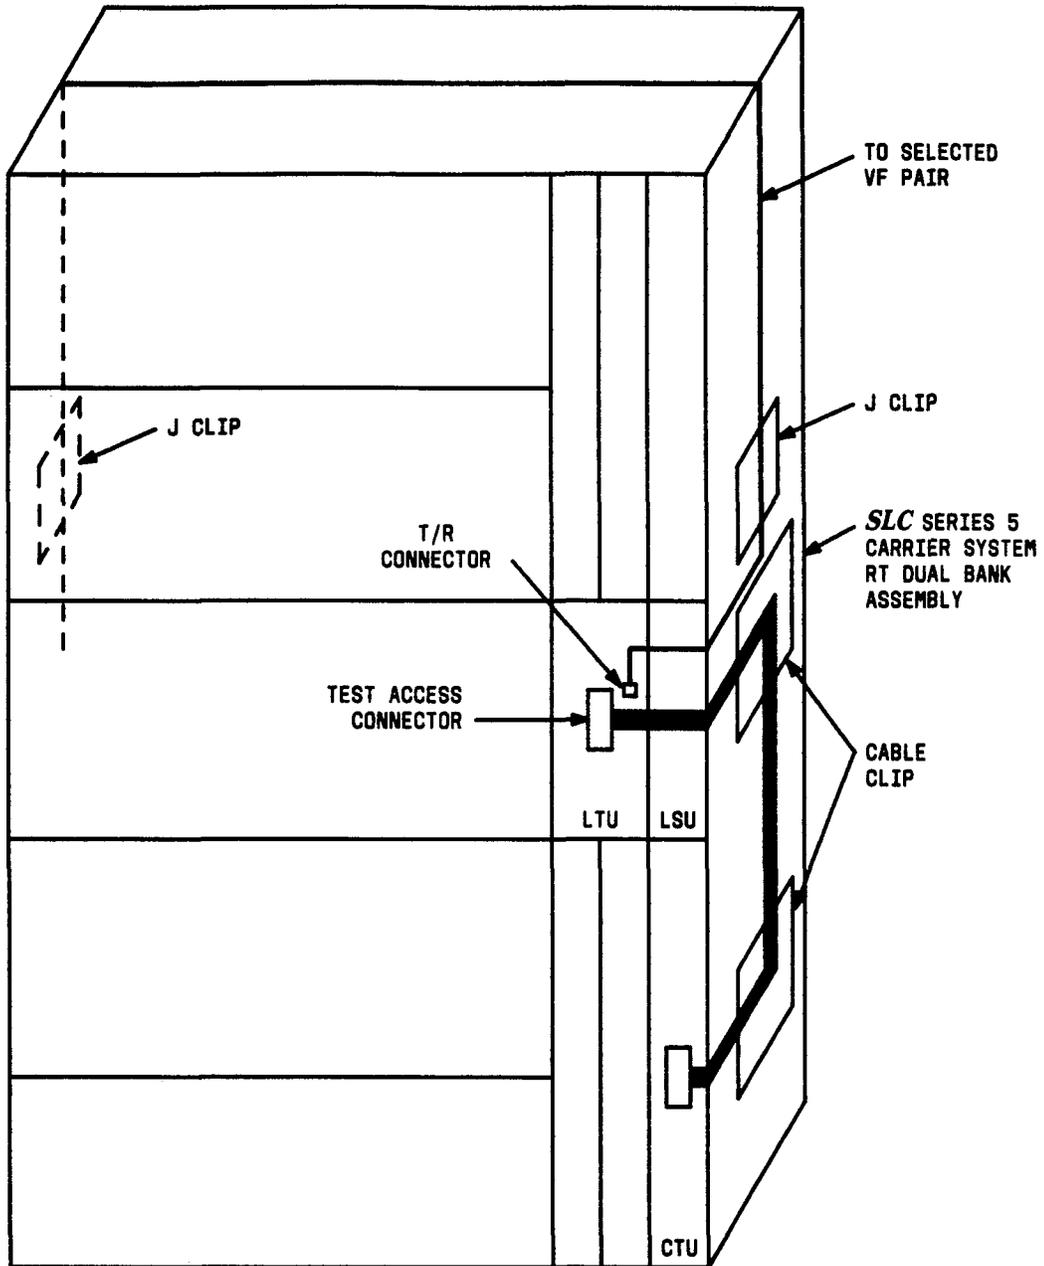

Figure 3—Connection of LTU to VF pair and CTU
This section describes the procedure for connecting the LTU to the TIP and RING VF pair (Figure 3).
8.	Dress the 2-conductor cable to the right side of the bank using the J clips provided (see Figure 3).
This section describes the procedures for connecting the LTU to the CTU (Figure 3).